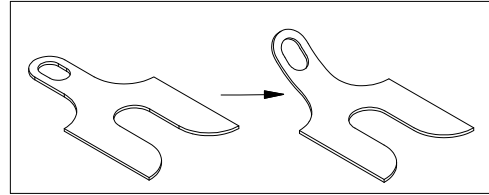
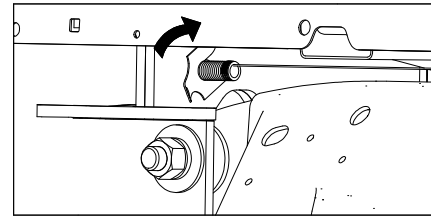

Figure H6: Bolt retainer before and after.
Figure H7: Close-up of carriage bolt installation.
- Secure cross members to side plate.** Make a small bend in the tail of one bolt retainer, see Figure H6. Slide the groove of the retainer over the threads as close to the cross member as possible, as shown in Figure H7. Rotate the tool clockwise to temporarily secure the tool to the carriage bolt while the fish wire is removed and the hardware is added.